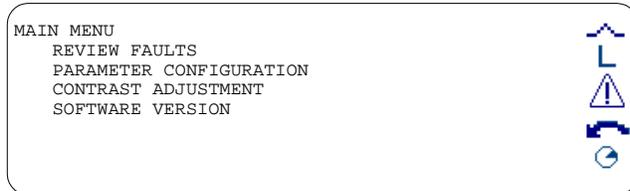
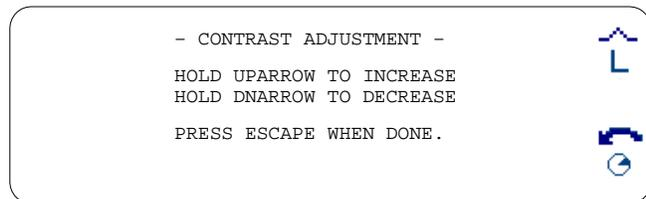
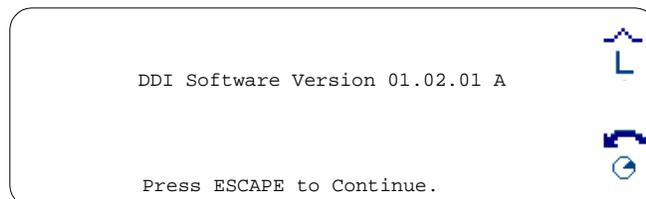

Figure 2-10. Selections on Main Menu Display
Figure 2-16. Sample Contrast Adjustment Screen
Figure 2-17. Sample Software Version Screen
Figure 2-10 shows the four selectable items on the DDI's Main Menu display. Each selection leads to other menu screens, where an operator can review and modify data, as needed.
1. Go to the Main Menu (shown in Figure 2-10):
To adjust the contrast of the DDI screen, select *Contrast Adjustment* from the Main Menu screen (see Figure 2-10). This brings up a another screen with instructions (see Figure 2-16).
To check the version of software being run, select *Software Version* from the Main Menu screen (see Figure 2-10). This brings up a screen with the information (see Figure 2-17).